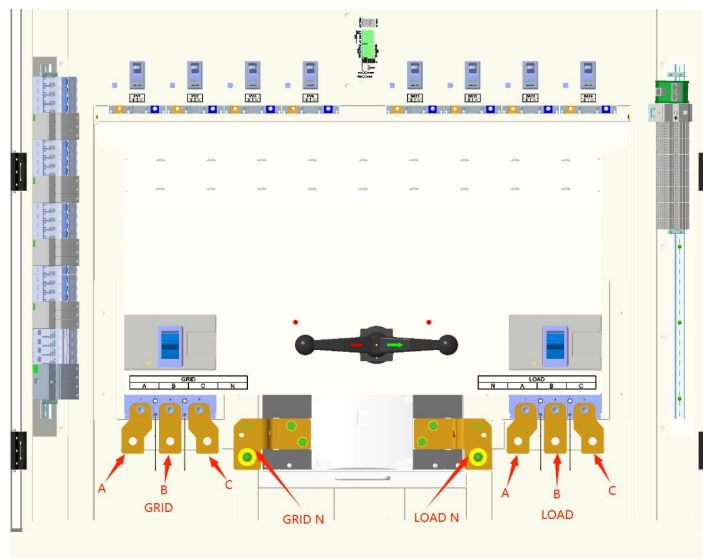

Figure 5-6 Schematic diagram of AC-side wiring ports
Remove the cover plate fixing screws shown in Figure 5-6 (marked with a red circle). The center of the cover plate 2 houses the PCM600 external extension handle. To remove the cover plate, loosen the fixing screws on the handle (marked with a yellow circle) and the cover plate fixing screws.
Step 3: Connect all grid components to the "GRID" terminals and all load components to the "LOAD" terminals, as shown in Figure 5-6. The corresponding cable connections are listed in Tables 5-5 and 5-6.